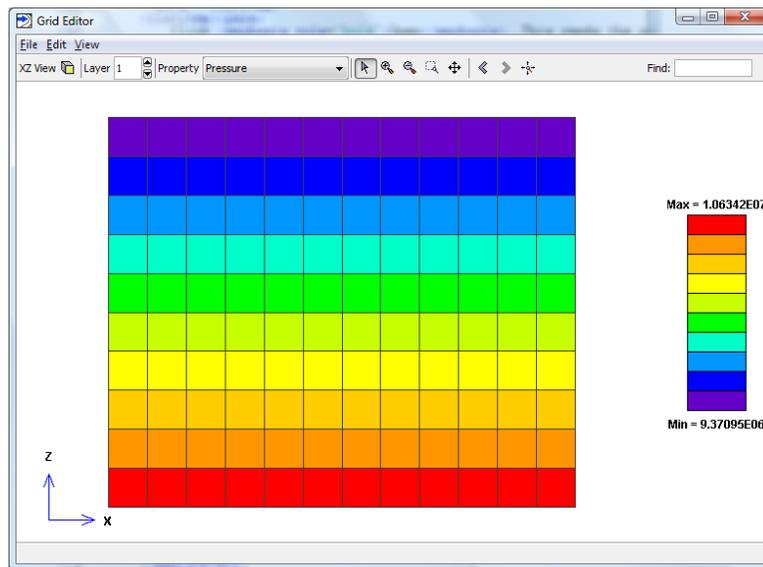

Figure 4.4. The grid editor with pressure as the display variable
4. The display will show the pressures from the initial state analysis, Figure 4.4.